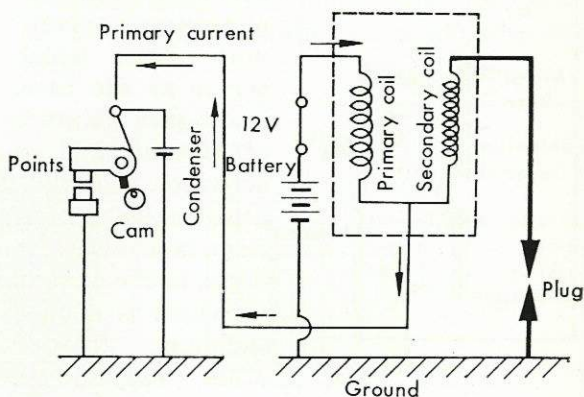

Fig. 27
Ignition system (See Fig. 27)
- When the points of the contact breaker close, the primary current flows as indicated by arrows in Fig. 27 to produce a magnetic flux in the iron core.